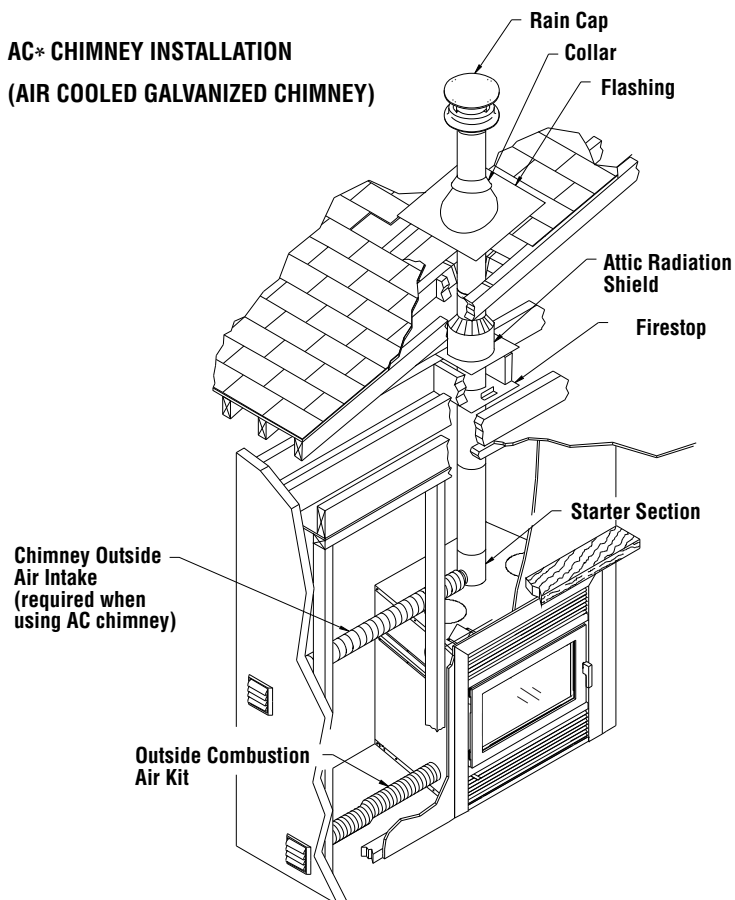

Figure 30
3. For ASHT/HT6103+ and S2100+/HT6000+ chimneys place the first chimney length on the fireplace. To lock it in place, turn 1/4 of a turn clockwise. With the AC* chimney, you must use a starter section (**AC6SB* or AC6SB30***) before installing the first chimney length (**Figure 30**). Continue installing chimney lengths making sure to lock each length in place.
5. Then, put the roof flashing in place and seal the joint between the roof and the flashing with roofing pitch (see **Figures 30 and 31**). For sloping roofs, place the flashing under the upper shingles and on top of the lower shingles. Nail the flashing to the roof, using roofing nails.